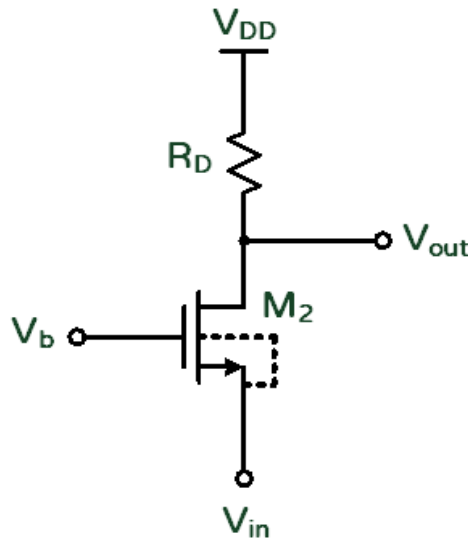

Fig. 2. A common gate amplifier
2. Common Gate (CG) (25%)
As shown in Fig. 2, we have a common gate (CG) stage with $V_{DD}=1.8V$.